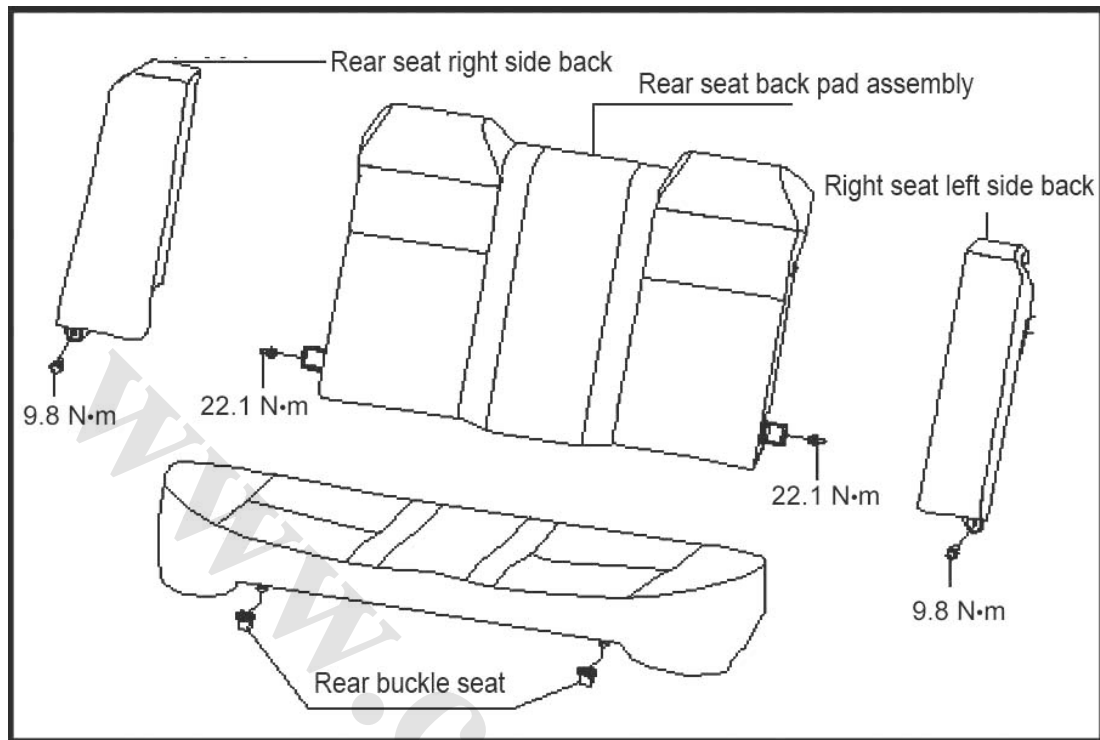

Fig. 7-16
1. Structure of the components as shown in Fig. 7-16.